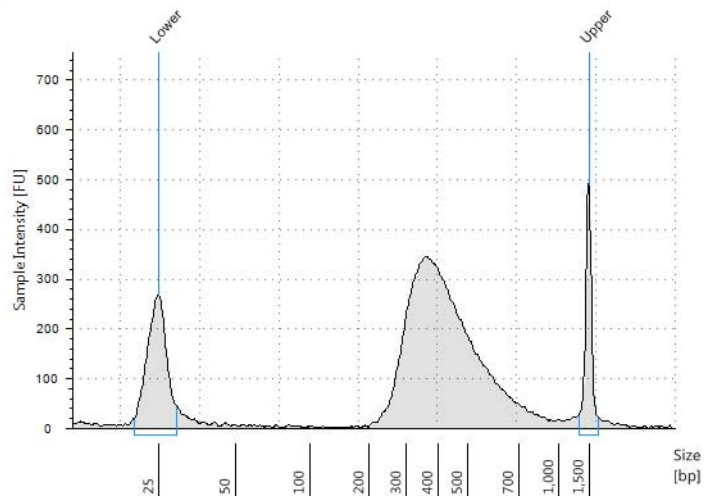

Figure 12 Analysis of indexed DNA using the 2200 TapeStation.
- 5 Verify that the electropherogram shows the peak of DNA fragment size positioned between 325 and 450 bp. A sample electropherogram is shown in Figure 12.